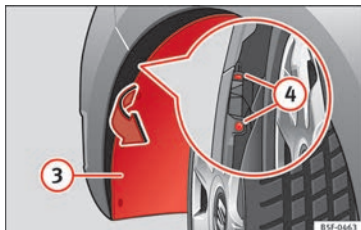

Fig. 215 Fog light: access to the connector and to the light bulb holder.
- Pull the wheel housing **3** » **Fig. 215** access the 2 hidden screws **4** » **Fig. 215** of the bumper.